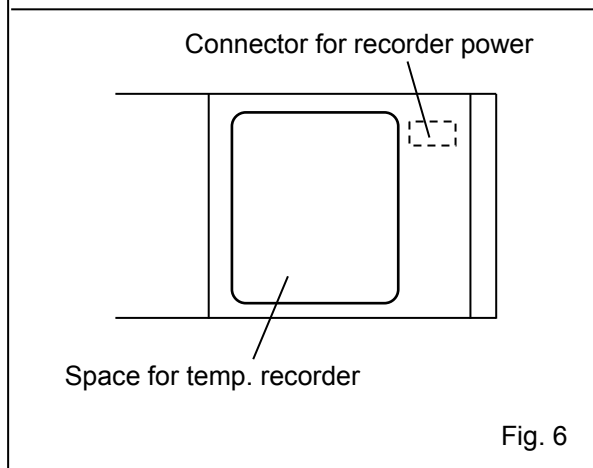

Fig. 6
9. Connect the recorder connector to the connector for recorder power located at upper right inside the space for temperature recorder. [Fig. 6]